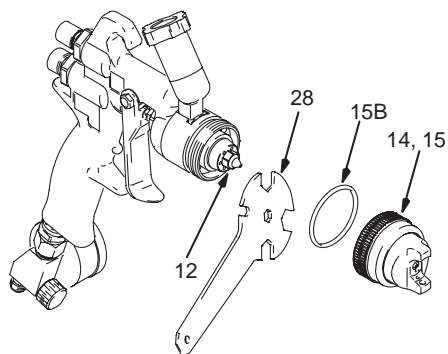

Fig. 22
3. Remove the air cap retaining ring (15) and air cap (14). Remove and replace the seal (15B). See Fig. 22.